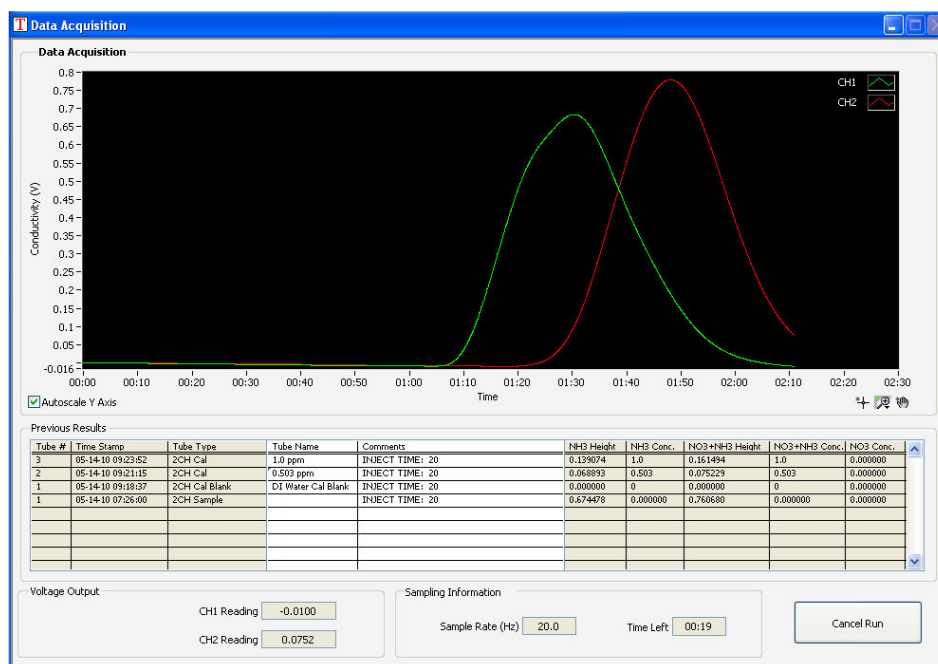

Figure 4-4: Acquisition Mode screen.
3. Save this file as a 'Text CSV (.csv)' file. Answer yes to the format warning to save as a Text CSV file. Make sure the Field delimiter is a comma and there is no text delimiter. See figure 4-4.